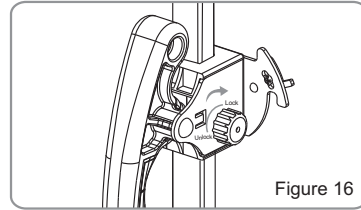

Figure 16
1. Turn the Housing position lock to "LOCK". (Figure 16)